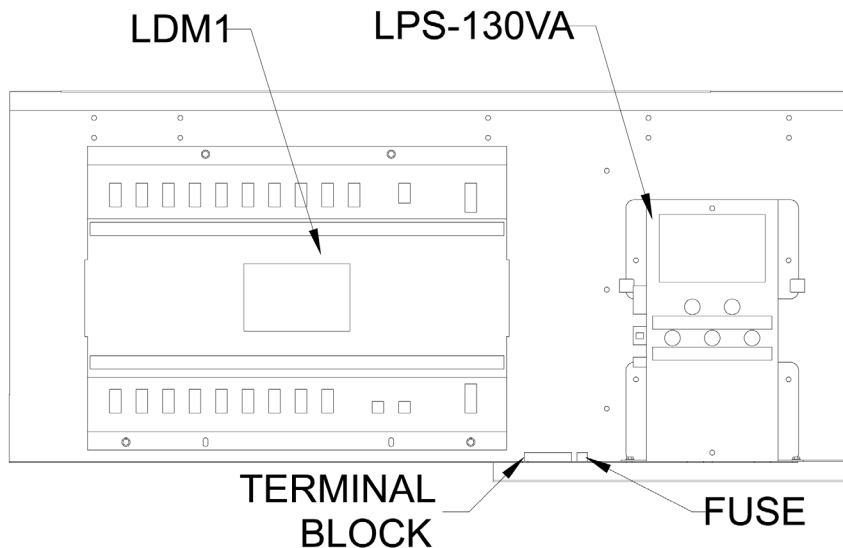

Figure 11 Middle Section Electronics
6. Plug the ribbon cable onto the header on the back of the circuit board. Refer to figure 11 in order to plug the ribbon cable IDC connector onto the circuit board in the proper orientation.
Figure 11 shows the location of the LPS-130VA Power Supply Module fuses. The tables below figure 11 list their functions.